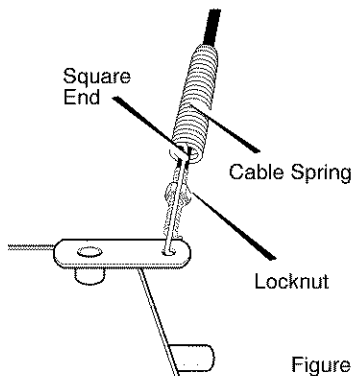

Figure 44
2. Push cable through spring to expose the threaded portion of the cable (see Figure 44).